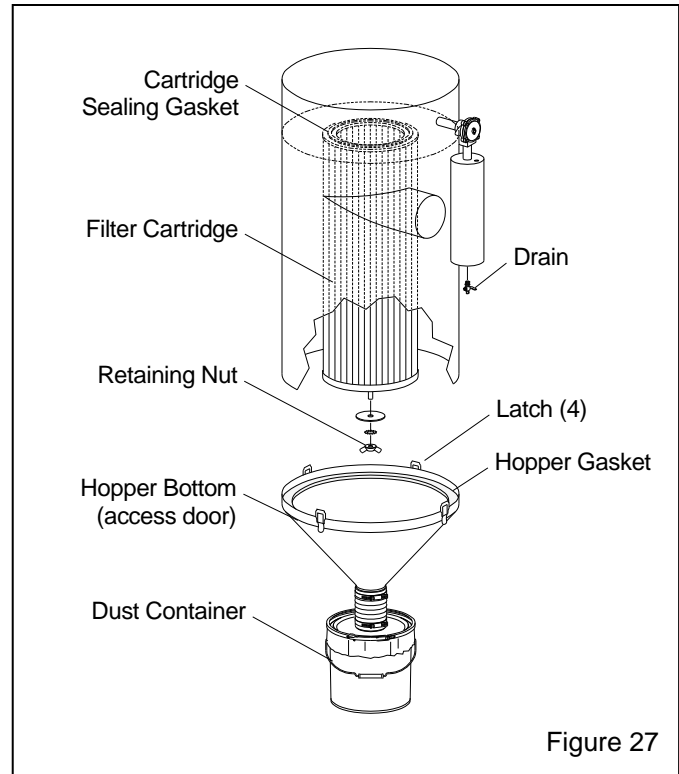

Figure 27
8.12 Filter Cartridge Replacement – Figure 27